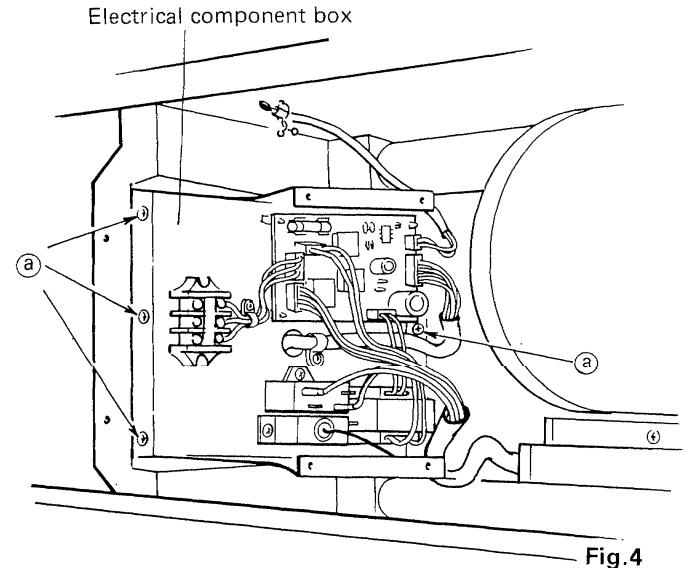

Fig.4
6) For removal of the electrical component box, remove the four screws shown by the arrows. ⑧ Fig.4.